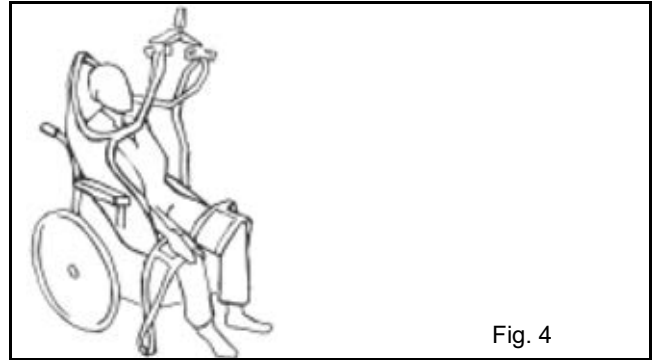

Fig. 4
- 3) From a kneeling/squatting position, the caregiver will gently lift one of the patient's legs apart and fit the leg portion of the sling around the hip and under and up between the legs. When applying the sling around the hips, ensure that the bottom edge of the leg straps is going to fall beneath the trochanters (big bumps on hips). It is the scooping effect under the pelvis that gives stability and safety to the sling, even when residents/patients are resistive and/or moving around in the sling. Loop strap outwards over each leg (see Fig. 4).